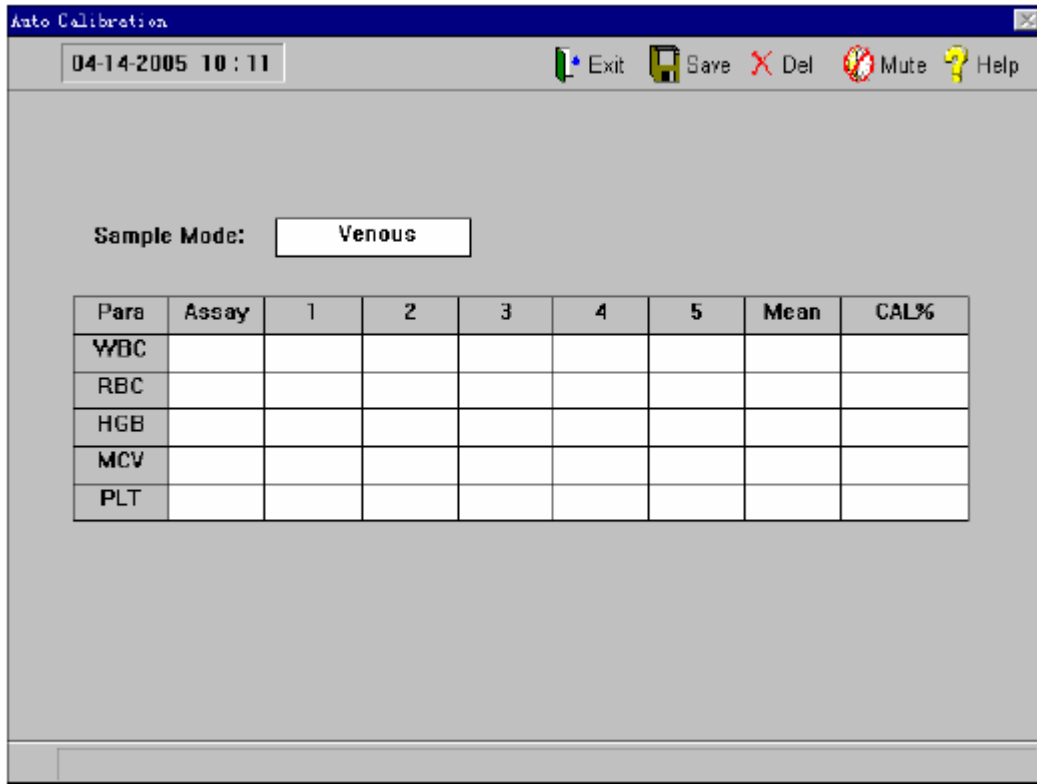

Figure 5-2
- In the blood cell analyzer window, press the right key of the mouse, select "Auto Calibration" in the menu. The instrument enters the auto calibration window, as shown in figure 5-2.